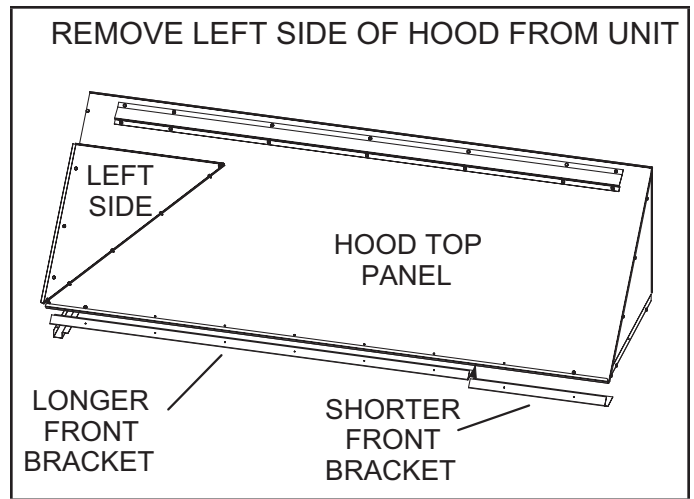
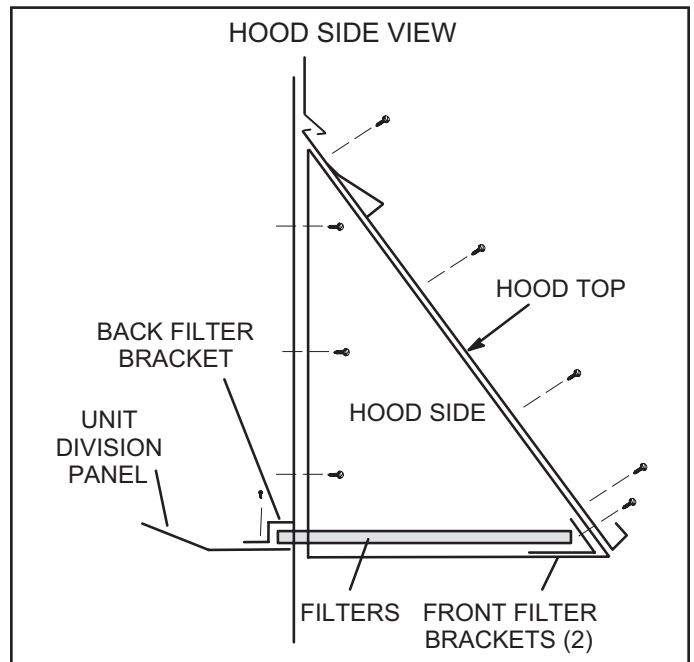

FIGURE 13
FIGURE 14
- 6 - Install back filter bracket on unit division panel as shown in FIGURE 14.
- 8 - Install longer front filter bracket on hood top as shown in FIGURE 13 and FIGURE 14. Insert four filters.